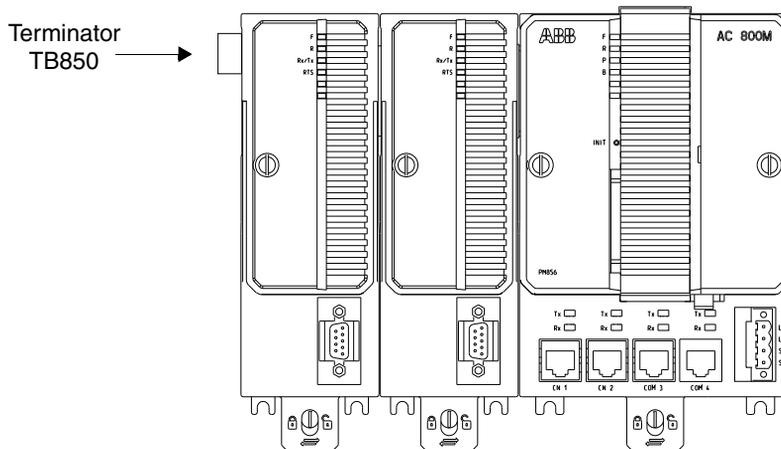
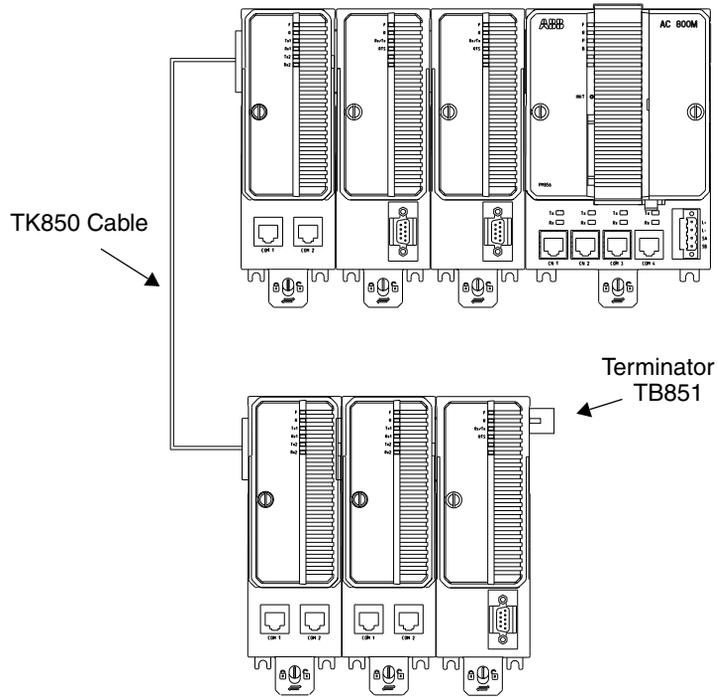
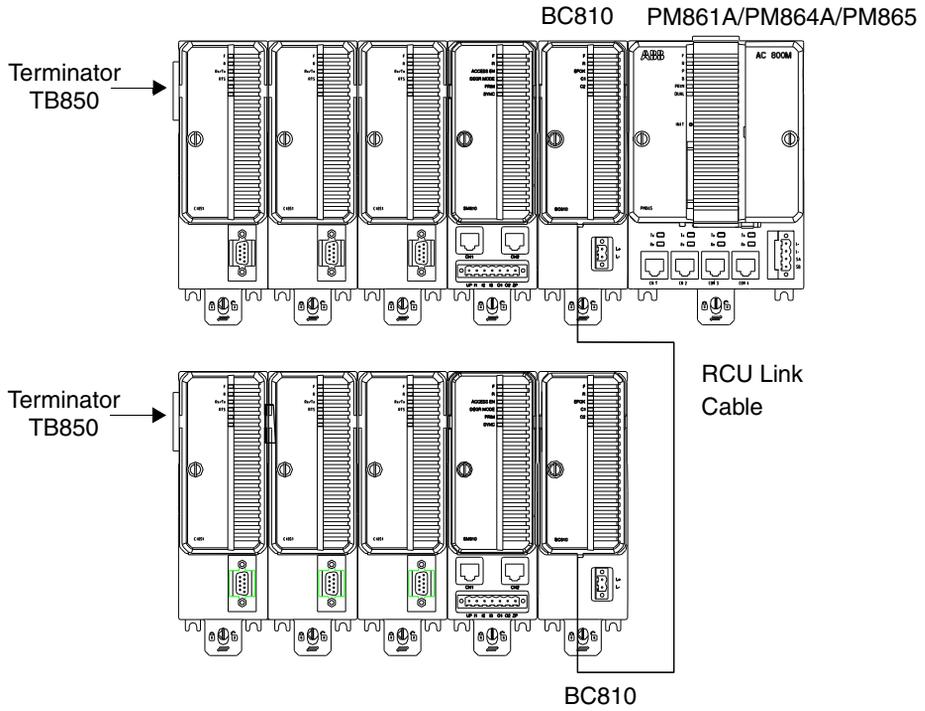

Figure 25. TB850 Terminator for CEX-Bus (male)
Figure 26. TB851 Terminator for CEX-Bus (female)
Figure 27. CEX-Bus Terminator when using BC810
- a. For CEX-Bus TB850 (TB851 if cable TK850 is used), see Figure 25 on page 80 and Figure 26 on page 81. When using BC810, see Figure 27 on page 82. If no units are used on the CEX-Bus, no bus termination is required.